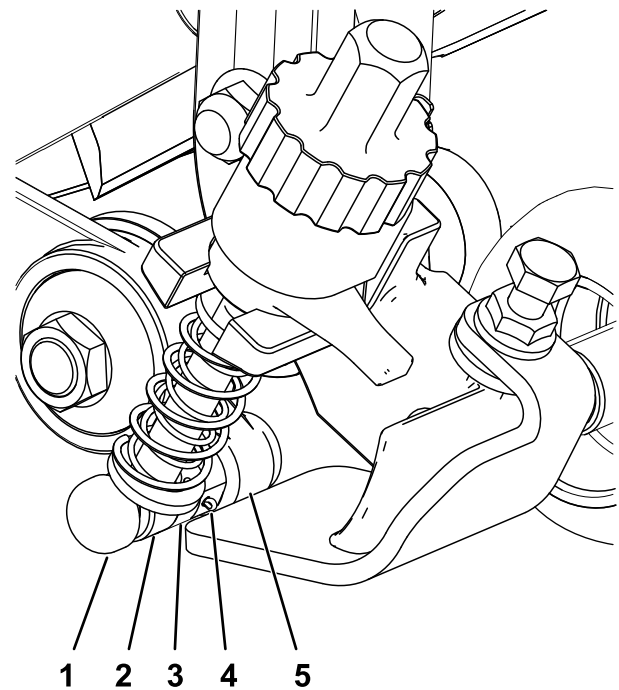

Figure 12
6. While the reel is restrained, torque the hex-head of the drive-box shaft to 135 to 150 N·m (100 to 110 ft-lb); refer to Figure 12.
3. On the idler assembly side, align the adjuster-arm rod of the HOC bracket with the adjuster collar on the idler assembly and secure it with an adjuster pin and cotter pin (Figure 12).